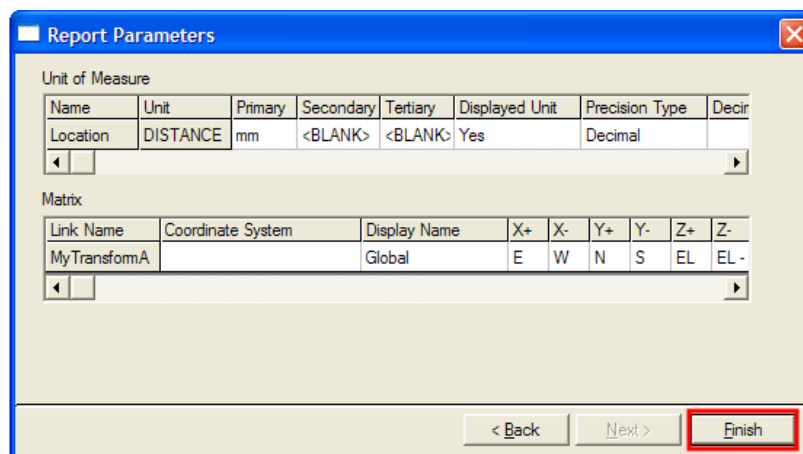

Figure 24: Report Parameters Dialog Box
8. The **Report Parameters** dialog box displays the **Unit of Measure** and **Matrix** properties for the report. You can change these properties as per your requirements, and then click **Finish**, as shown in Figure 24.